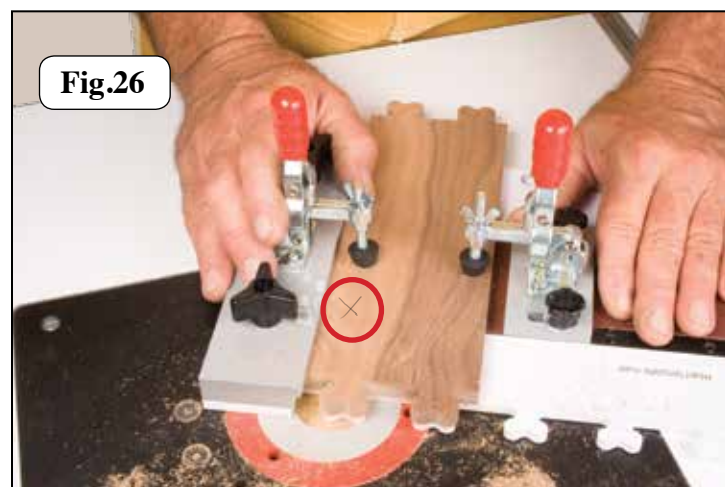

Fig.26
Now that one end of the box is cut, you will now flip the stock, keeping your reference mark (X). against the template alignment block, and following the same instructions shown in **fig. 22**. for set-up. Once the stock is properly set-up and secure in the jig, make the cut (See **Fig. 26**). After making this cut, repeat this entire process on the other side of your box.